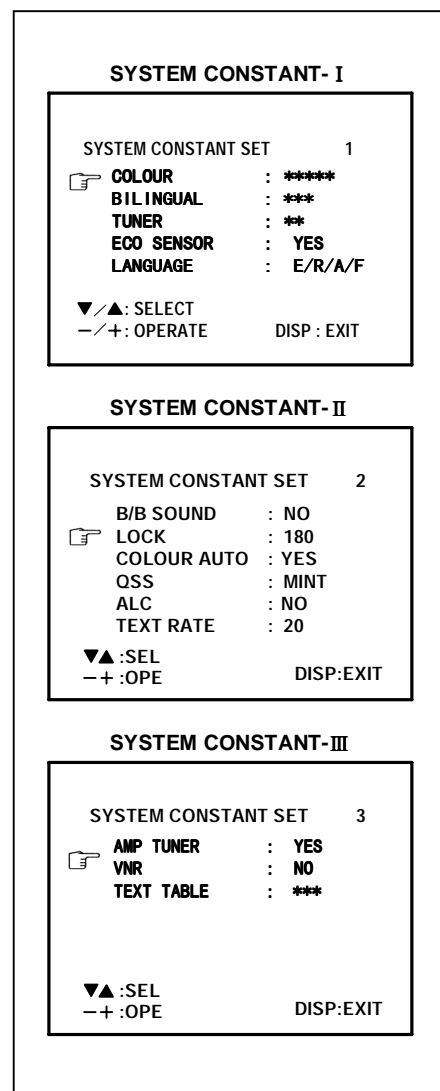

Fig.2
- 3) While the SERVICE MENU is displayed, again press the **DISPLAY** key and **PICTURE MODE** key simultaneously, and the SYSTEM CONSTANT SET screen of Fig. 2 will be displayed.